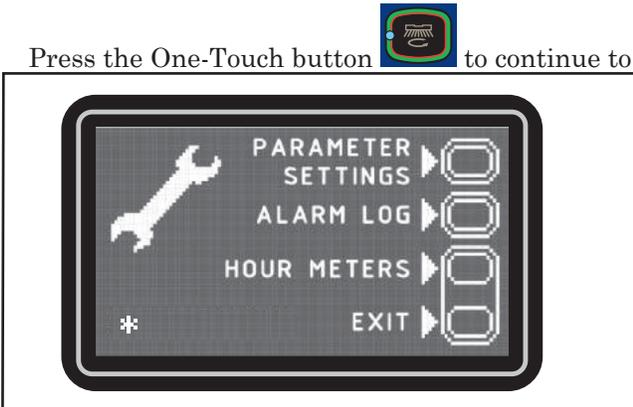

Figure 4
1. Insert the Super User (yellow) key in place of the operator (grey) key to access the main screen (Figure 4) of the multifunction display.
5. Press the brush release button  to confirm the chosen parameter and return to the main screen (Figure 4).